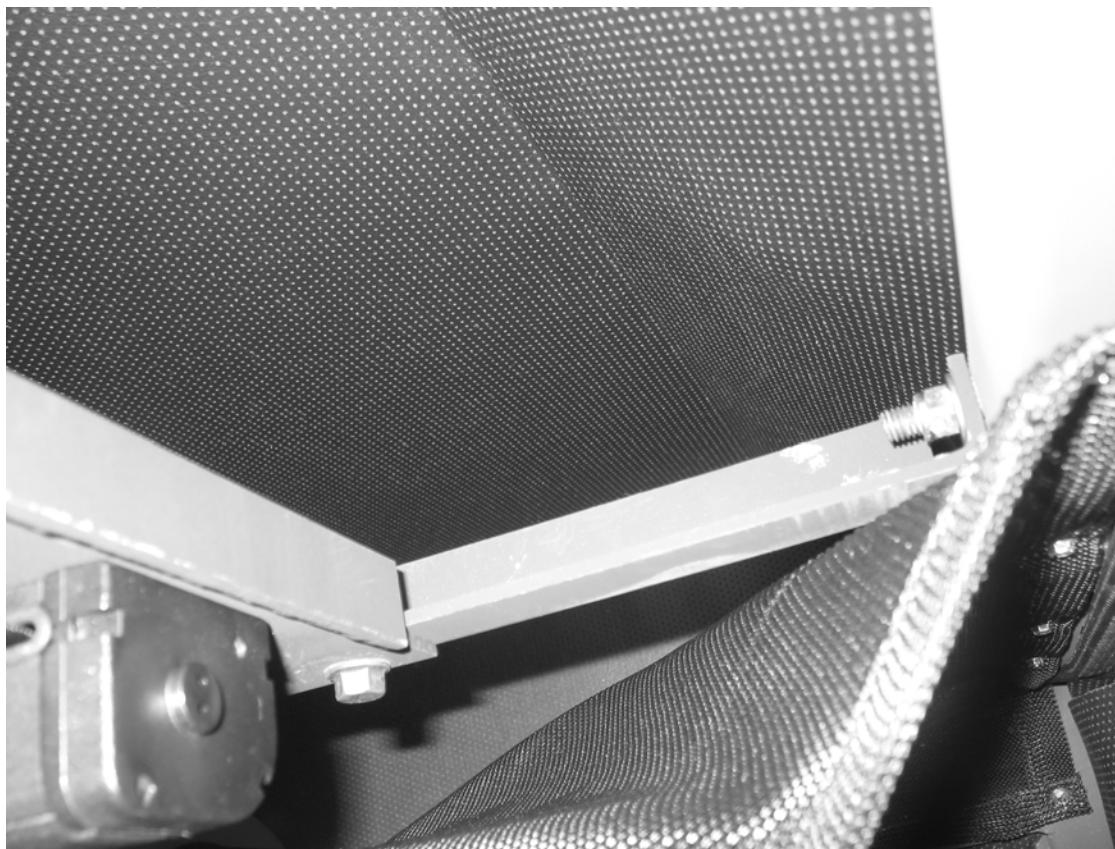

**Figure 31. Rear Side Panel Assembly.**
- ee) Attach the Steel and Aluminum Aft Side Panels (P/Ns 113312-1-103 and 113312-3-103) together using 0.375-16 x 1.500-in.-long bolts, nuts, and washers in five locations, as shown in Figure 31.
- ff) Attach the Upper Rear Panel Bracket (P/N 113352-3-103) using 0.375-1.75-in.-long bolts, nuts, and washers in the five locations shown in Figure 31.